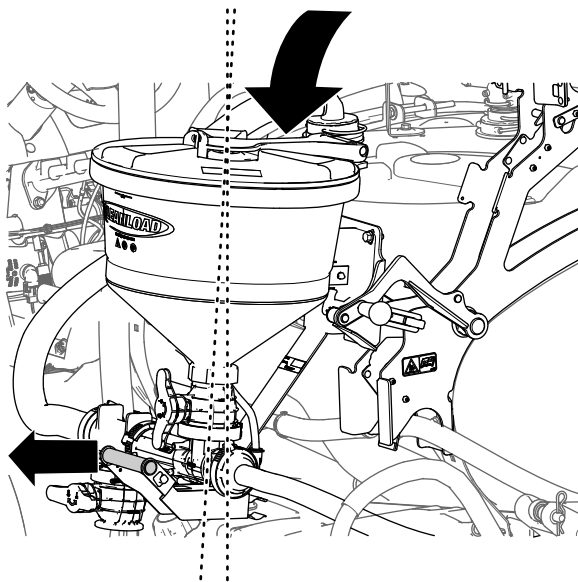

Figure 39
4. Fully lower the educator while holding the educator handle outward slightly (Figure 39).
- Raise the educator while holding the educator handle outward slightly (Figure 39).